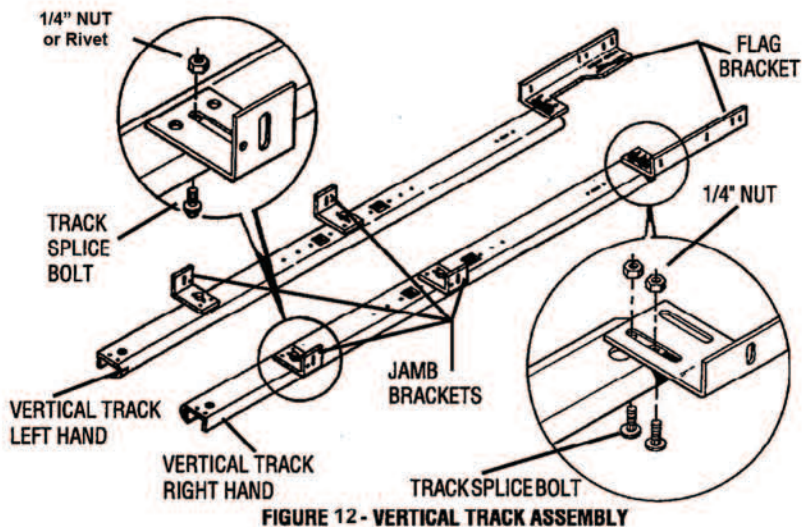

FIGURE 12 - VERTICAL TRACK ASSEMBLY
Install jamb bracket to straight vertical track using 1/4" x 5/8" track splice bolts and 1/4" nuts. 1/4" nuts always go on outside of track curve. Install brackets in numerical order. Place shorter bracket towards bottom end of track with short side of bracket and track facing towards the jamb. Hand tighten (Fig. 12).
Step 12 Attach flag bracket to top of track with 2 (1/4" x 5/8") track splice bolts and 1/4" nuts with flat side of flag and track facing towards the jamb. Hand tighten (Fig. 12).